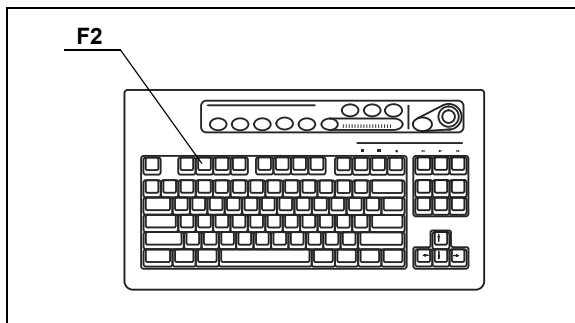

Figure 5.100
1. Press the "F2" key (see Figure 5.100). The scope information window appears on the monitor for about 6 seconds (see Figure 5.101).